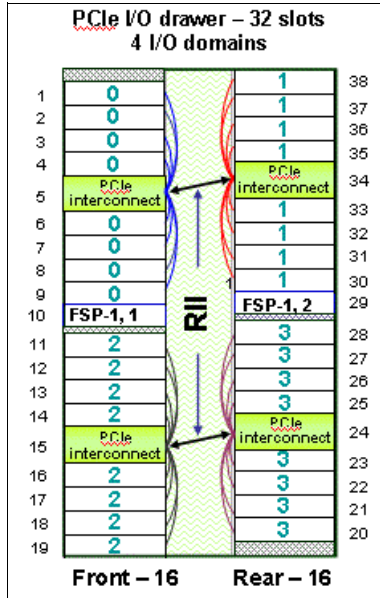

Figure 2-14 PCIe I/O domains
The PCIe I/O drawer domains and the connectivity to them is shown in Figure 2-14.
**Note:** Figure 2-14 is a “vertical” representation of the layout of a PCIe I/O drawer for ease of reading.